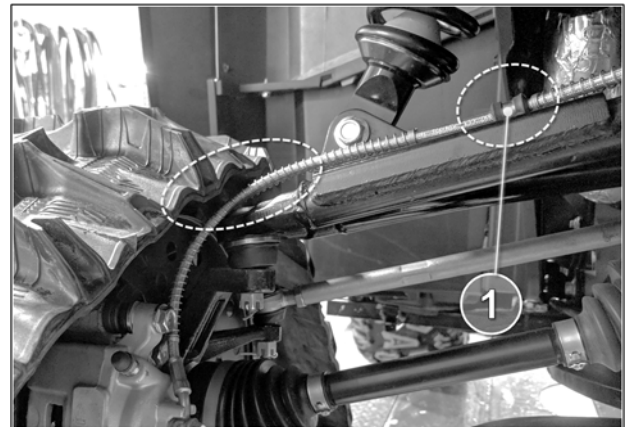

Fig. 25
4. Verify if inner edge of tracks are at risk of rubbing against front brake hoses. If such is the case, loosen hose clamps (1), pull and relocate brake hoses further away from edge of tracks, and then re-tighten clamps to keep brake hoses in position. See Fig. 25